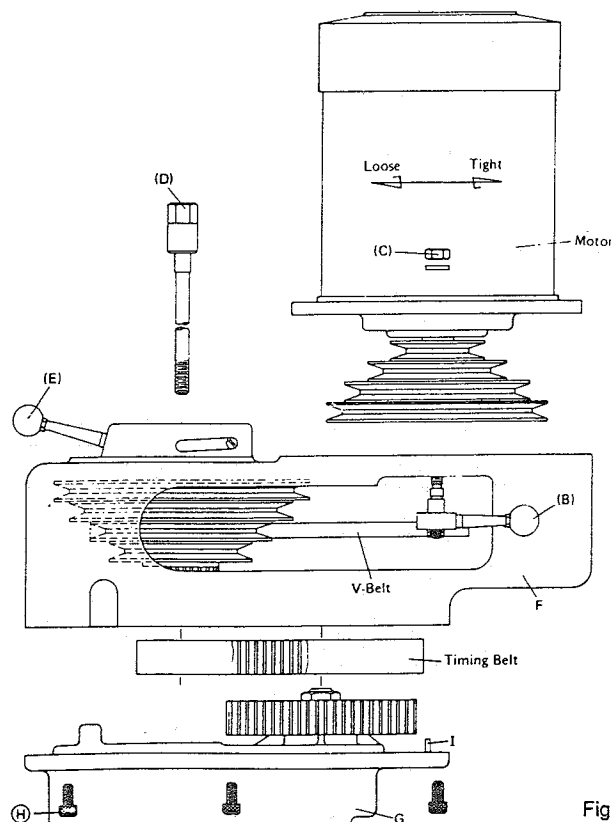

Figure 21
(1) Replacement of V-Belt and Timing Belt of TM.
- c. As illustrated Fig.21 , loosen Adjusting motor handle (B) and move the motor forward to loosen the belt. Turn the V-Belt and let it slip off the belt wheel.
- d. Take off the two hexagonal nuts (C) for motor dismounting.
- e. Take out the drawbar (D) and drop the quill down to the lowest position.
- f. Push the hi-low speed selector (E) to the right front position.
- g. Dismantle the six concave bolts (H) connecting the belt housing (F) and gear housing (G). Strike upward the belt housing. V-Belt and timing belt are therefore replaced.